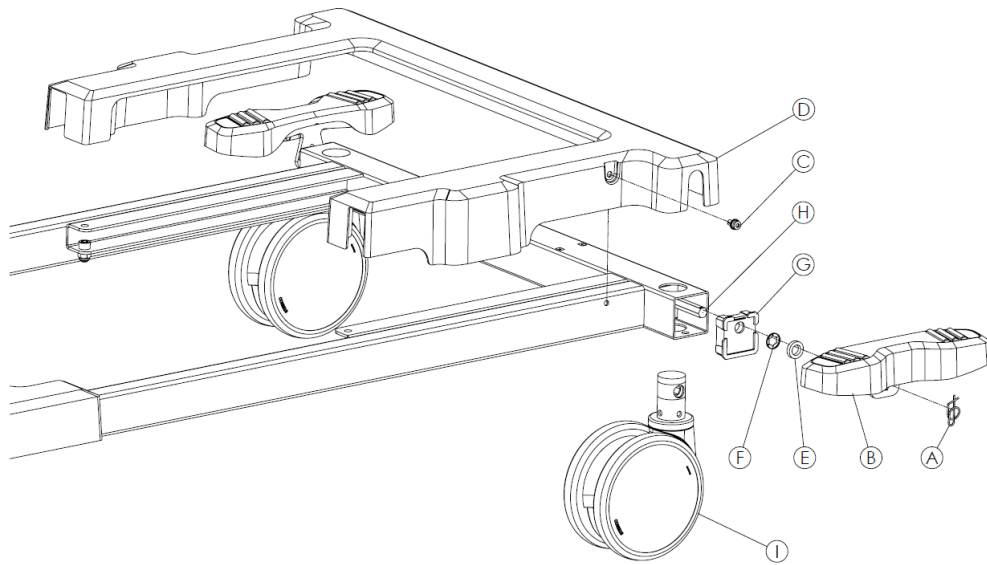

Figure 14 – Non-steer caster
4. Using a T25 Torx wrench, remove the cover screws (C). Remove the cover (D). Discard the cover screws (Figure 14).
5. Using needle nose pliers, remove the rue ring cotter pin (A) from the hex shaft. Discard the rue ring cotter pin.
6. Pull the brake pedal (B) off the hex shaft. Set aside.
7. Remove the plastic washer (E) that is on the hex shaft. Discard the plastic washer.
8. Using diagonal pliers, cut the starlock retainer (F) that is on the hex shaft. Discard the starlock retainer.
10. Using a large screwdriver, remove and discard the plastic tube cape (G) on the tube.
11. Grasp the opposite brake/steer pedal and pull out about 3.5 in. (80 mm) to remove the non-steer caster (I). Discard the non-steer caster.